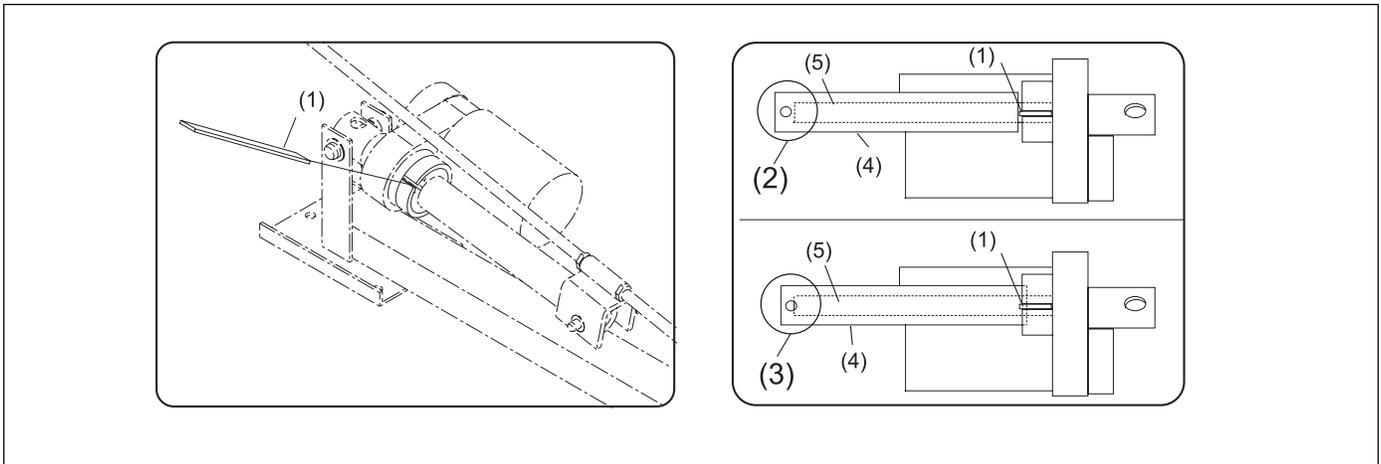

Figure 22. Use Gage to Determine if Interference Exists
- d. Insert a go-no-go gage (part number 17-300270-000) into the slot of sleeve casting. Refer to *Figure 22*. If gage fits into slot as shown, and end of gage contacts the drive screw, no drive pin interference exists and additional adjustments are NOT necessary. If the gage does not fit into slot or contact the drive screw, proceed to step 2 to make cam switch adjustment.
- d. Insert the go-no-go gage (part number 17-300270-000) into the slot of motor sleeve casting. Refer to *Figure 22*. If gage can be inserted and contacts the drive screw, remove gage and cycle the bumpers (raise and lower) several times while verifying that the cam switch indicates correct open or closed bumper status. If gage does NOT insert into the motor sleeve casting, go to step 3.